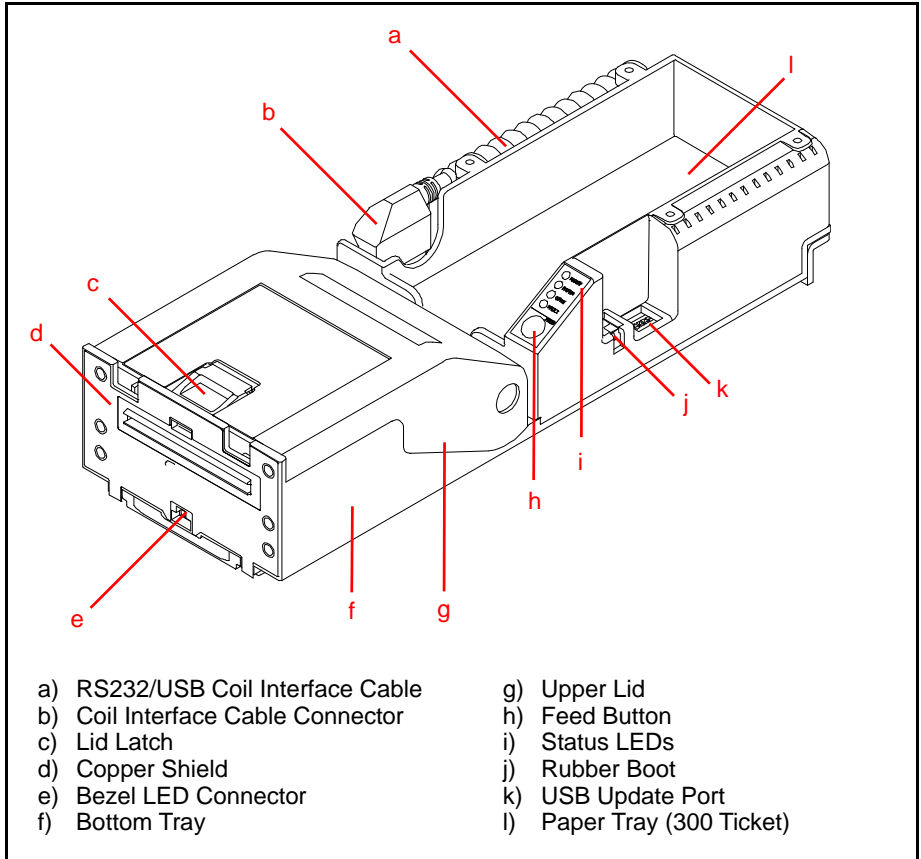

Figure 2 GEN2U Printer Component Names
Figure 2 illustrates the GEN2U Component Names and Locations.
1. Press the Lid Latch (refer to Figure 2 **c** on page 4) to open the Printer Lid.